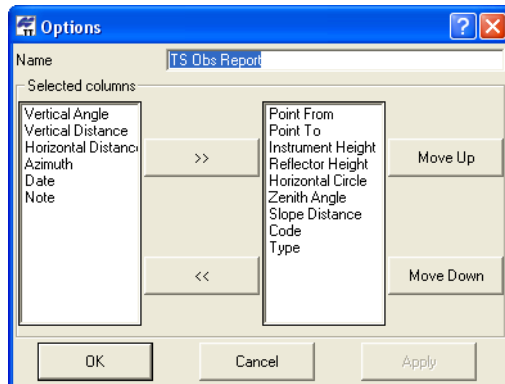

Figure 7-25. Item Options – TS Obs Report
- TS Obs Report – edit the name, select parameters to include or exclude using the move right/move left buttons, order the display of parameters using the Move Up/Move Down buttons, and click **OK** (Figure 7-25).